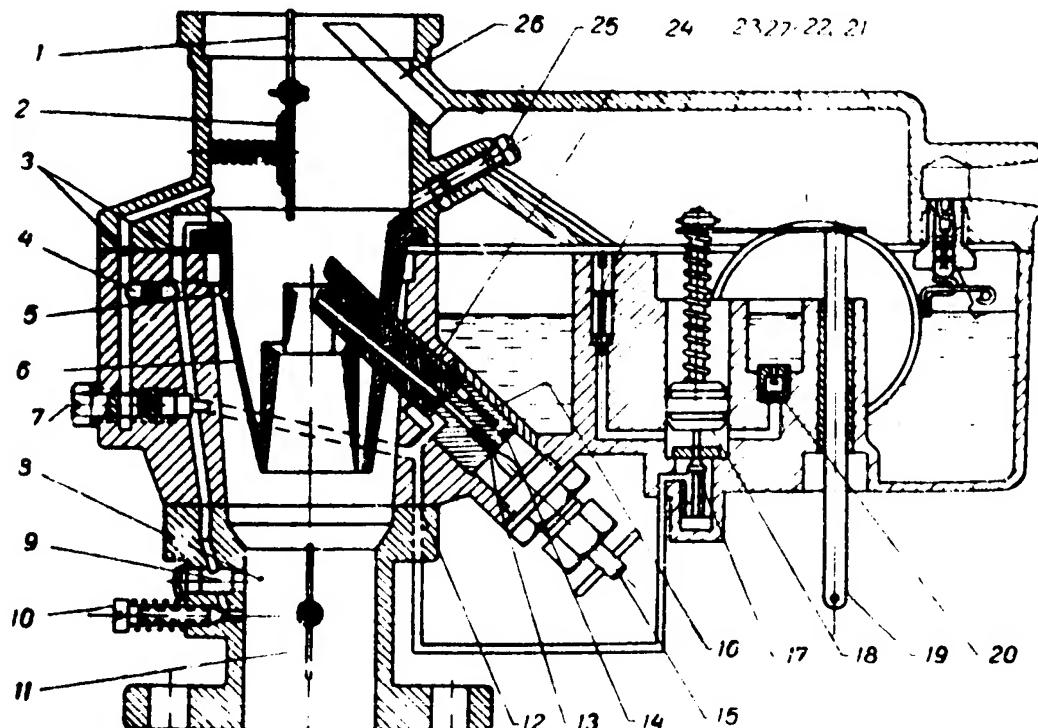

Fig. 15. Carburetor Diagram
**The automobile is equipped with a K-22Д down-draft carburetor with automatic mixture control effected by two jets and elastic Venturi tubes. The carburetor is fitted with an acceleration pump, economizer automatically driven from the throttle valve, and a needle for adjusting the carburetor under operational conditions. The diagrammatic view of the carburetor is shown in Fig. 15.**